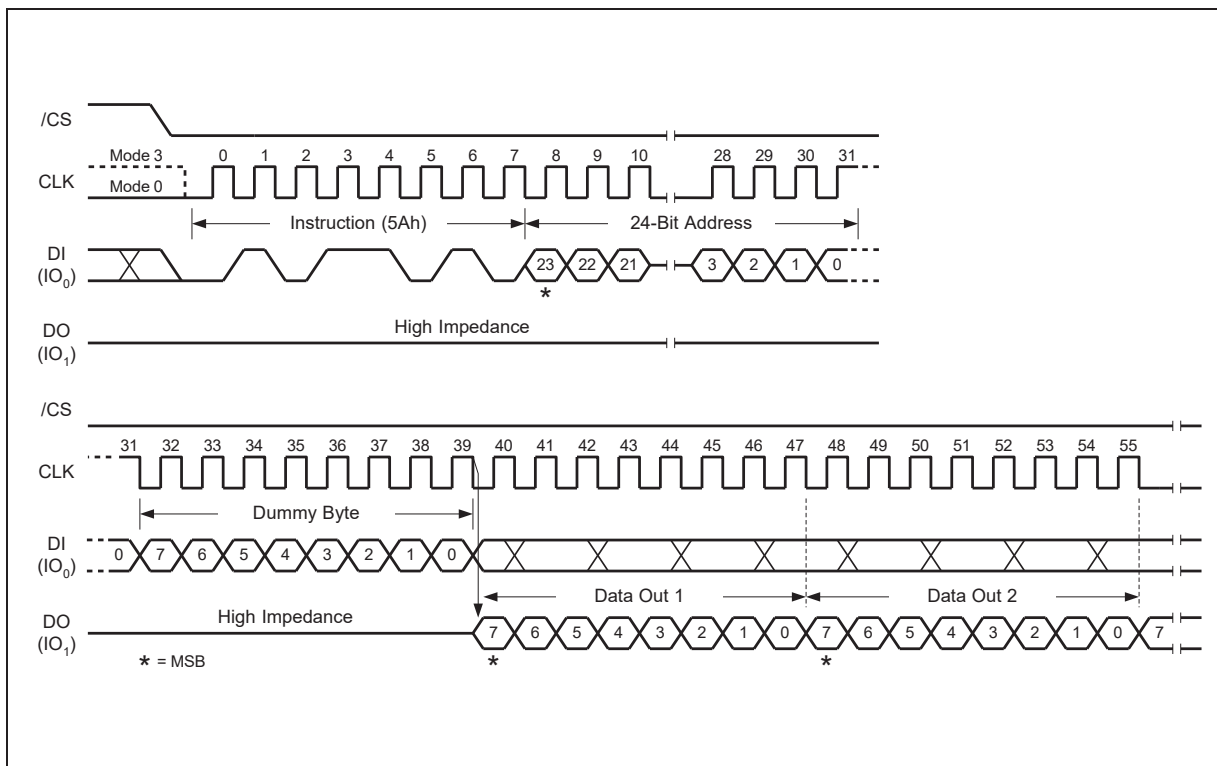

Figure 44. Read SFDP Register Instruction Sequence Diagram
The Read SFDP instruction is initiated by driving the /CS pin low and shifting the instruction code “5Ah” followed by a 24-bit address (A23-A0)(1) into the DI pin. Eight “dummy” clocks are also required before the SFDP register contents are shifted out on the falling edge of the 40th CLK with most significant bit (MSB) first as shown in Figure 44. For SFDP register values and descriptions, please refer to the Winbond Application Note for SFDP Definition Table.